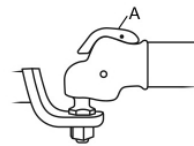

Figure 6
When finished the release-lever (A) **MUST** be in a fully down position as shown. (Figure 6)